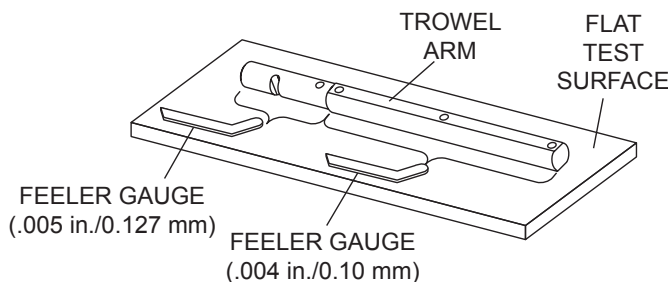

Figure 47. Checking Trowel Arm Flatness
1. Use a thick steel plate, granite slab, or any surface which is true and flat (Figure 47), to check all six sides of each trowel arm for flatness.
2. Check each of the six sides of the trowel arm (hex section). A feeler gauge of .004" (0.10 mm) should not pass between the flat of the trowel arm and the test surface along its length on the test surface. See Figure 47.